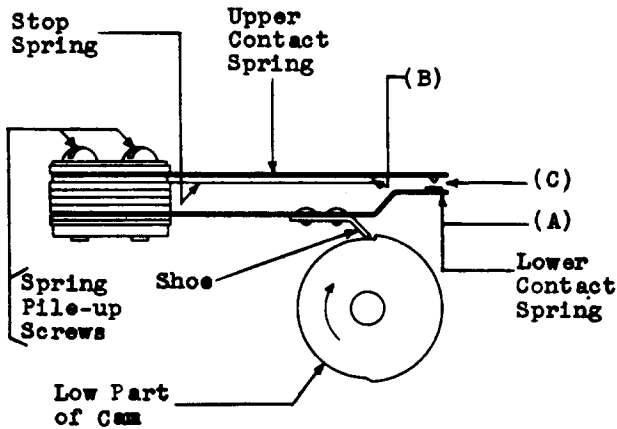

Fig. 5 - High-speed Cam Assembly — Method of Shoe Pressure and Contact Separation
2.13 Pressure of Cam Shoe on Cam: Fig. 5(A)—
Fig. 5(B) — With the shoe of the lower contact spring on the *low* part of the cam, the upper contact spring shall rest on the stop spring, at least at the free end of the stop spring.
2.16 Contact Separation: Fig. 5(C) — With the shoe of the lower contact spring on the *low* part of the cam, the separation between the contacts of the upper and lower springs shall be